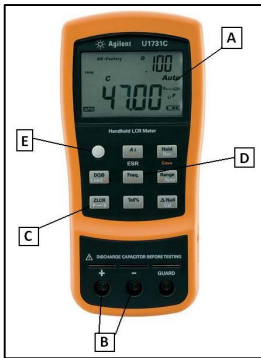

Figure 1: U1731C
A) Connect 2 wiring leads into the positive (+) and negative terminals (-) [B in Figure 1] of the tester unit.
B) Switch ON the tester unit ("POWER" switch) [E in Figure 1]. The default frequency is 1 kHz, in the opposite case; press the "Freq" [D in Figure 1] button until frequency is shown as 1 kHz.
C) Set the tester unit in the inductance measurement mode pressing "ZLCR" button [C in Figure 1]. Screen must show an L. Read and note the L value on the Table 1. This value named XL is usually a number with a comma. H (Henry) is the unit.
D) Set the tester unit in the capacitance measurement mode pressing "ZLCR" button [C in Figure 1]. Screen must show a C. Read and note the C value on the Table 1. This value named XC is usually a number with a comma. nF (nano-Farad, 10-9 Farad) is the unit.